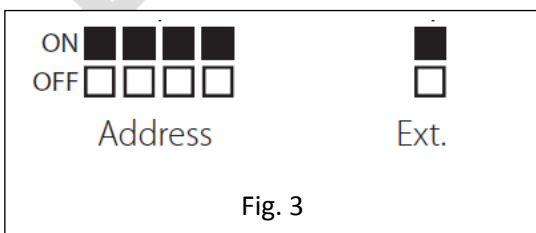

Fig. 3
- Set the "Address" dipswitches and move the "Ext." dipswitch to OFF (see Figure 3).